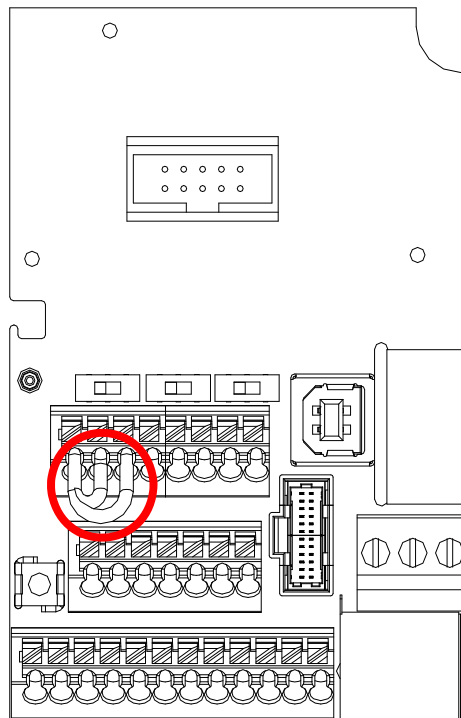

Figure 17-2
- 17-3-1. Figure 17-2 shows the internal circuit diagram of the safe control loop.
- 17-3-2. The terminals of the safe control loop + 24V-S1-S2 are short-circuited together with the jumper wire at the factory, as shown in Figure 17-2.